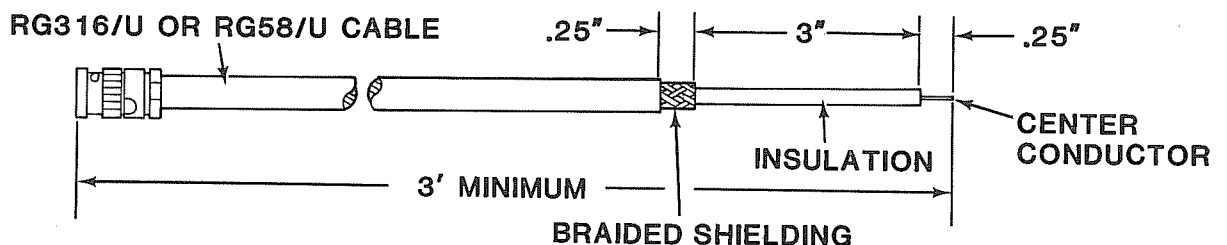

FIGURE G-1 FLEXIBLE COAX CABLE PREPARATION
1. Prepare length of flexible coax cable as shown in Figure G-1 below: